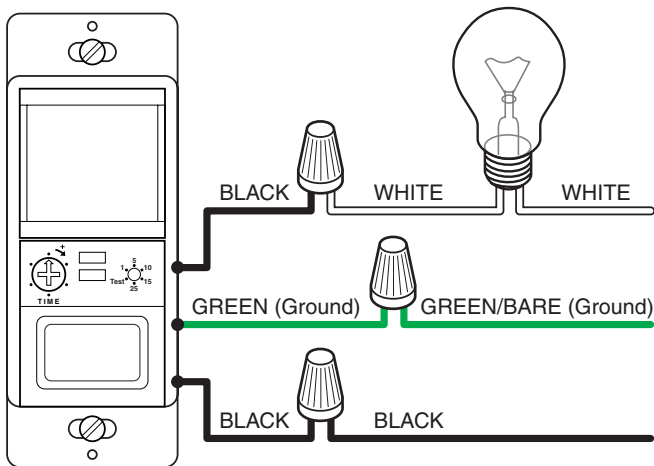

Figure 2 - Connecting Electrical Leads of Sensor
2. Connect electrical leads of sensor as shown in Figure 2. **IMPORTANT:** Before installing sensor into junction box, make sure there is no wire exposed at each connection.